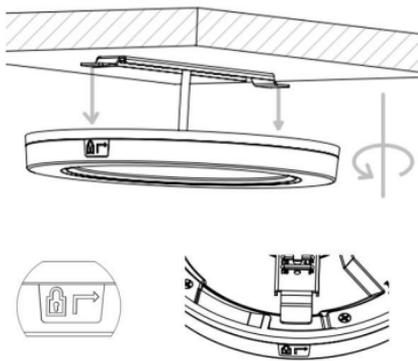

Fig. 3
- Assemble the luminaire to the bracket by turning clockwise until ends of brackets sit within grooves of casing (see Fig. 3)